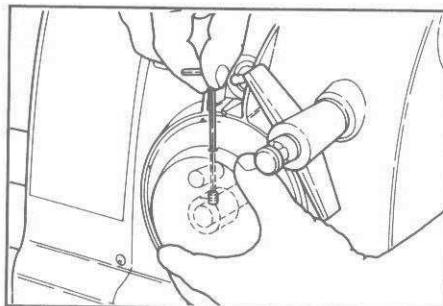

Figure 11. To remove the speed control handle, loosen the setscrew.
4. Remove the speed control handle. With the access hole in the side of the speed control handle facing up, insert a 3/32" Allen wrench in the hole and loosen the setscrew holding the handle to the worm control shaft. (See Figure 11.) Pull the handle free of the shaft.